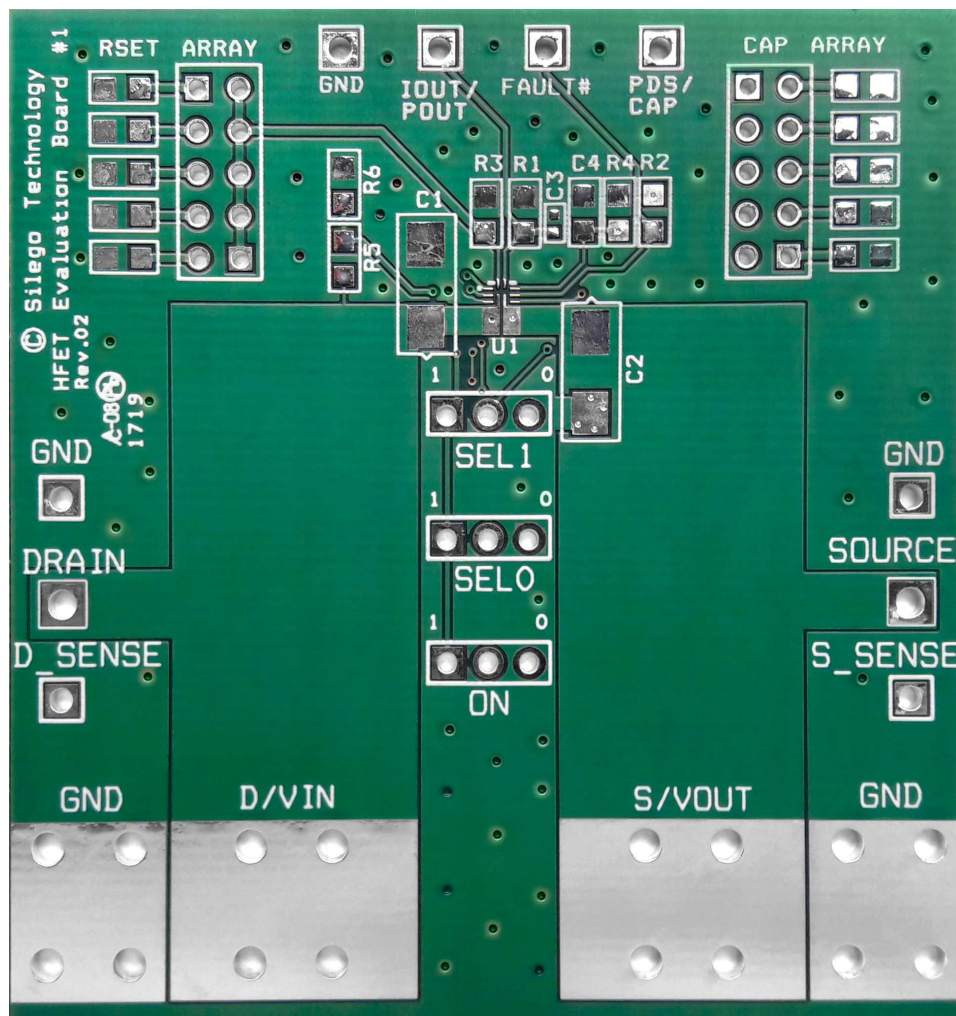

Figure 14. SLG59H1010V Evaluation Board
1. Since the V_{IN} and V_{OUT} pins dissipate most of the heat generated during high-load current operation, it is highly recommended to make power traces as short, direct, and wide as possible. A good practice is to make power traces with absolute minimum widths of 15 mils (0.381 mm) per Ampere. A representative layout, shown in Figure 14, illustrates proper techniques for heat to transfer as efficiently as possible out of the device;
A High Voltage GreenFET Evaluation Board for SLG59H1010V is designed according to the statements above and is illustrated on Figure 14. Please note that evaluation board has D_Sense and S_Sense pads. They cannot carry high currents and dedicated only for $R_{DS(ON)}$ evaluation.